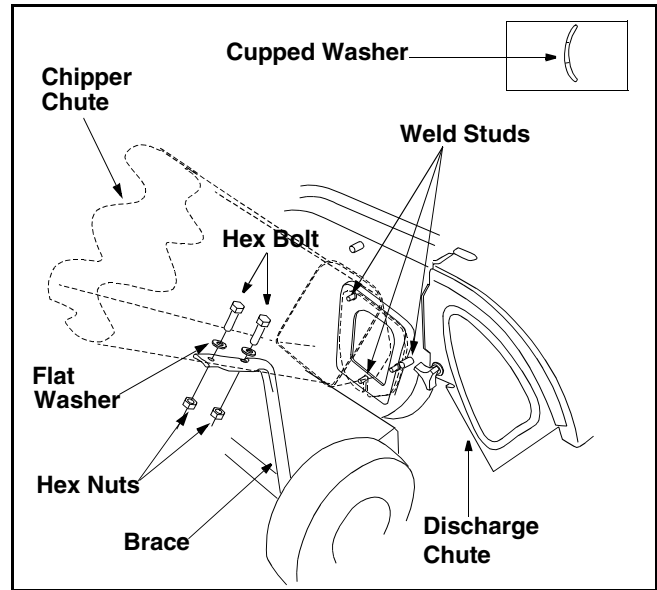

Figure 5
- Remove the three cupped washers and hex nuts from the weld studs beside the opening on the left side of the housing. See Figure 5.